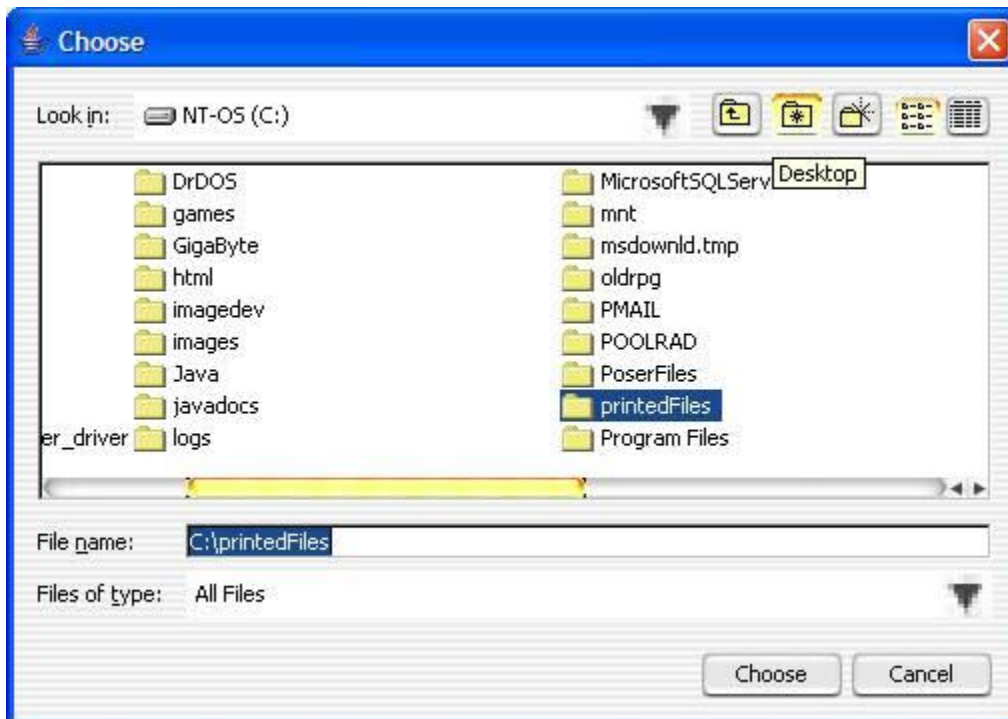

FIGURE 1b
- 1) Output Directory – This is the directory to save the produced images to. It can be any standard Windows drive, such as ‘c:\myFiles’, or it can be a UNC pathname such as ‘\\winserver\C\uploadarea’. The optional button showing ‘...’ next to the Output Directory displays a file dialog (Figure 1b below) where one can pick the directory with a graphical user interface.